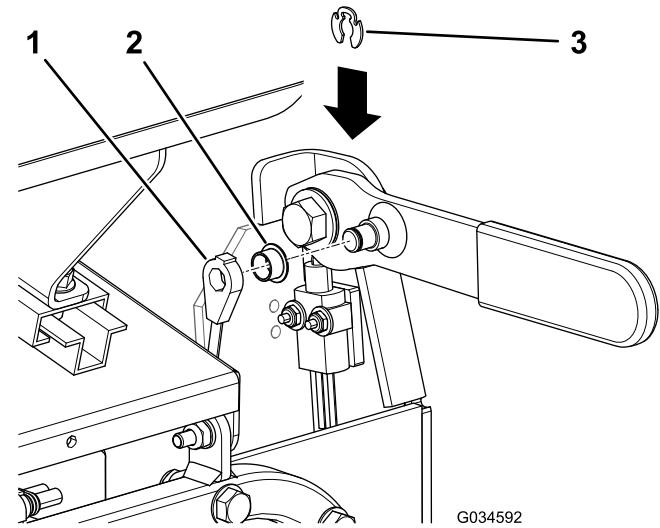

Figure 5
10. Install the bushing over the post on the parking-brake lever (Figure 5).
11. Install the cable end on the bushing (Figure 5).
12. Install the retaining ring on the post to secure the cable end to the post (Figure 5).